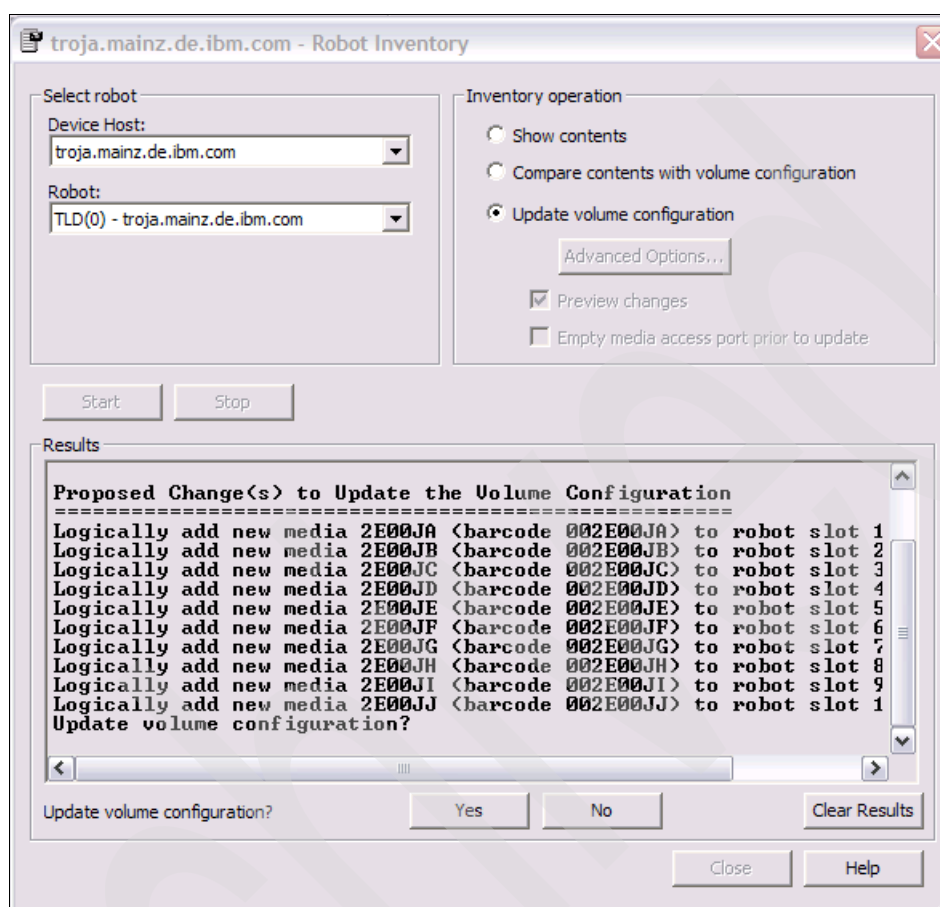

Figure 10-21 Inventory robot
- Now we can start the inventory of the library by clicking the **Start** button. To accept this inventory, we select **Update volume configuration** under the Inventory operation pane and click the **Yes** button, as shown in Figure 10-21.